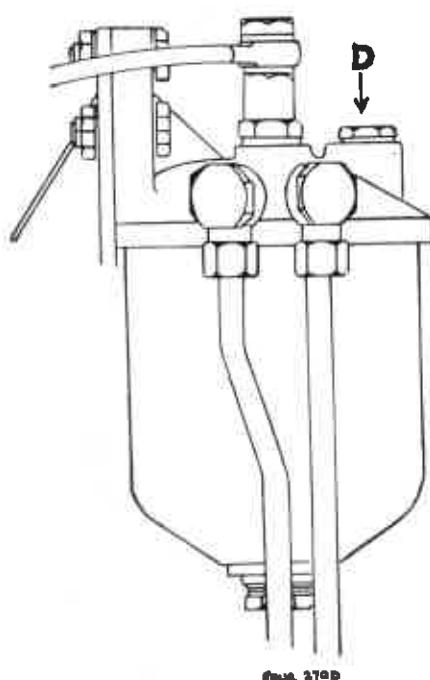

Fig. D.2. Final Fuel Filter.
(D) on the top of the filter cover (not the return pipe to the tank). (Fig. D.2).
1. Filter cover vent screw (D). (Fig. D.2).